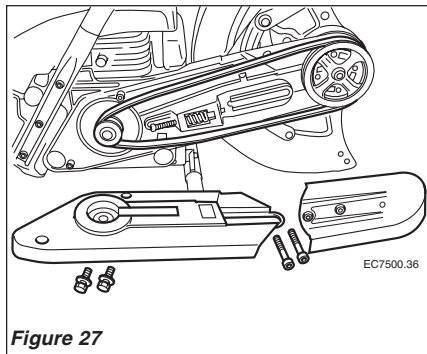

Figure 27
4. Reassemble the clutch cover and the belt guard and adjust the belt tension. Figure 27 illustrates the components.